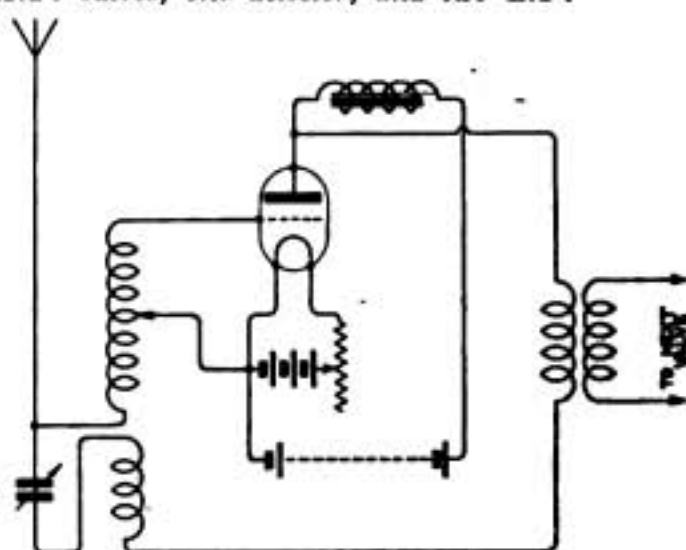
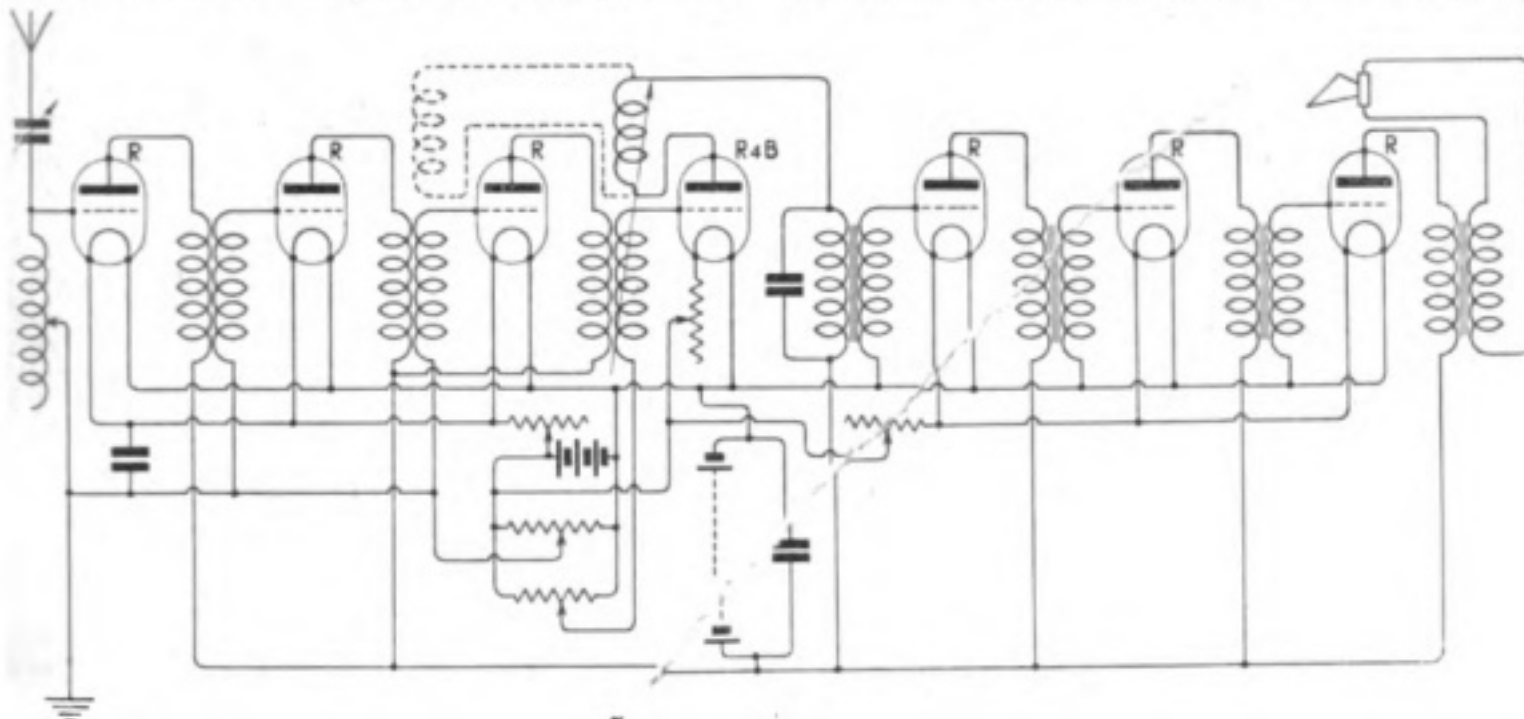

Fig. 1.
Fig. 2
(1) See diagram page 465, Fig. 1, issue for July 8th. Filament resistance 5 ohms, other dimensions as usually given. (2) Assuming 1.8" is the distance between the neighbouring fixed plates, 16 fixed and 15 moving will be sufficient.
(1) A reaction coil is not necessary, but skilfully used would considerably increase the range of the set. Unskilfully used it might lead to serious re-radiation. (2) The coils might be 3" x 5" of No. 32, connected in the anode circuit and coupling into the end of the secondary of the loose coupler remote from the primary. (3) See Fig. 1, p. 465, issue for July 8th, for a simplified theoretical diagram of the circuit.
(1) For a three-valve circuit see Fig. 2, page 304, issue for June 3rd. For six-valve circuit see Fig. 1, page 368, issue for June 17th, to which an additional H.F. or L.F. valve can be added if desired. We have not space to give full design details for these sets, but typical values for each component have been frequently quoted. Details of a valve set, were given in issues 16 to 22 of Vol. 8. (2) Transformer coupling is probably the best for all-round purposes, but needs a series of transformers to cover a big range. A resistance capacity coupling is good for all wavelengths above 1,000 metres, but very poor below this figure.
You cannot conveniently add your amplifier to this receiver and work with common H.T. and L.T. batteries, unless you care to make use of a choke coil at the point of distribution of the H.T. For circuit diagram see Fig. 1.
We would advise you to use three H.F. amplifiers and efficient rectifier, and three note magnifiers. The only difficulty in making up such a set is the design of the H.F. transformers. These must all be identical in value, for should one have a slightly different optimum wavelength, it will filter out signals on which the other two would be capable of giving good amplification. These transformers should be wound on a 1" ebonite rod, the primaries and secondaries being wound in the same direction, insulated from one another by a single layer of empire cloth, and consisting of 300 turns of No. 38 S.S.C. The finishing ends should be taken to the grids and plates. For circuit, see Fig. 2.